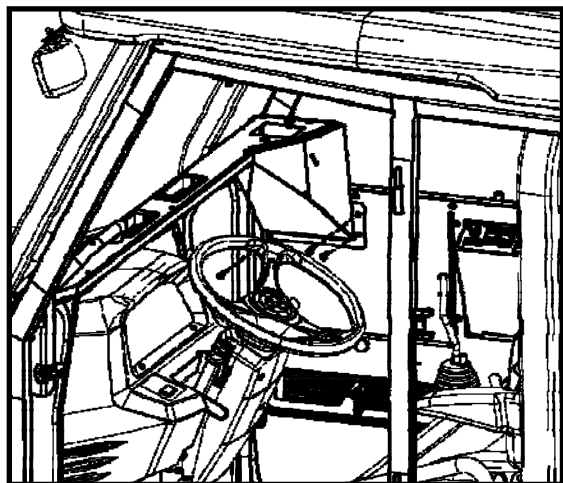

Figure 6.9: Side Frame Junction Block
- 6.9 Fasten the side frame to the cowl junction box (see Figure 6.9). Leave hardware loose.